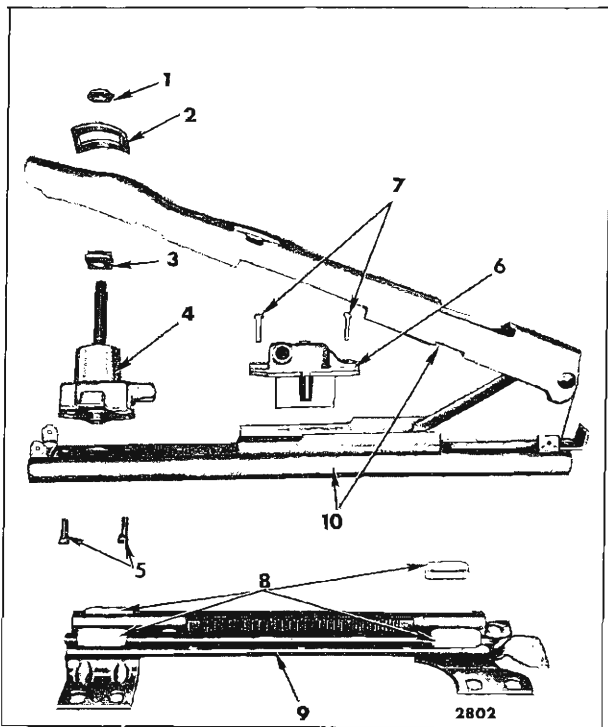

Fig. 15-17—Four-Way Seat Adjuster Components - Buick “B, C & E” Styles
3. Raise upper portion of upper channel. Remove screws securing horizontal actuator assembly to adjuster lower track; then, remove actuator from adjuster assembly (Fig. 15-17).